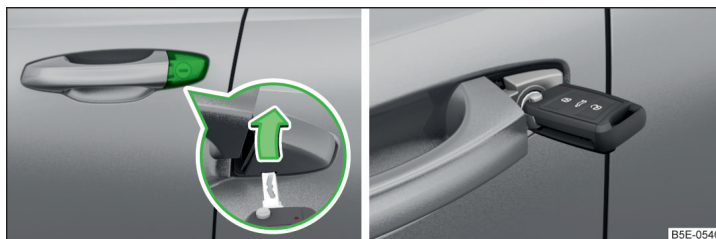

Fig. 342 Handle on the driver's door: Open lock cover / lock cylinder with key
- › Insert the key into the recess on the lower side of the cover and fold up the cover in the direction of arrow » Fig. 342.
- › For vehicles with **LHD**, insert the key with the fold-out key bit **with the buttons facing upwards** » Fig. 342 into the lock cylinder and unlock/lock the vehicle.